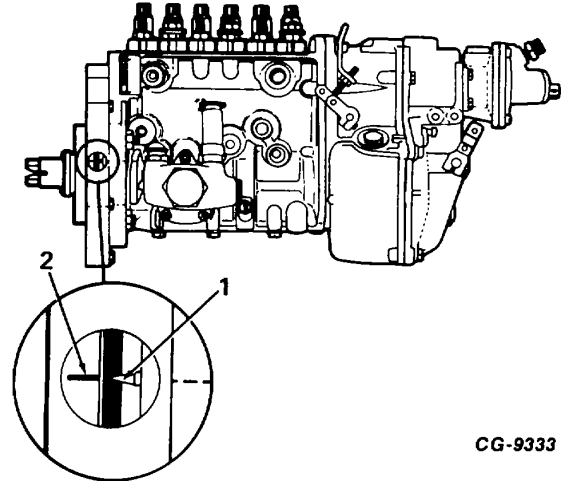

Figure 23. - Timing Pointer and Timing Mark
5. Rotate pump clockwise (as viewed from drive gear end) until timing mark on pump drive hub is aligned with timing pointer in adapter hole (Figure 23).
11. Verify alignment of pump timing pointer to hub mark through mounting adapter opening (Figure 23). Rotate pump drive hub as required for proper alignment. Torque pump drive gear bolts to 35 ft-lbs. (47 N•m). Observe engine to injection pump timing on pulley (Figure 24). Refer to Chart 1 on Page 19, this section, for correct timing.